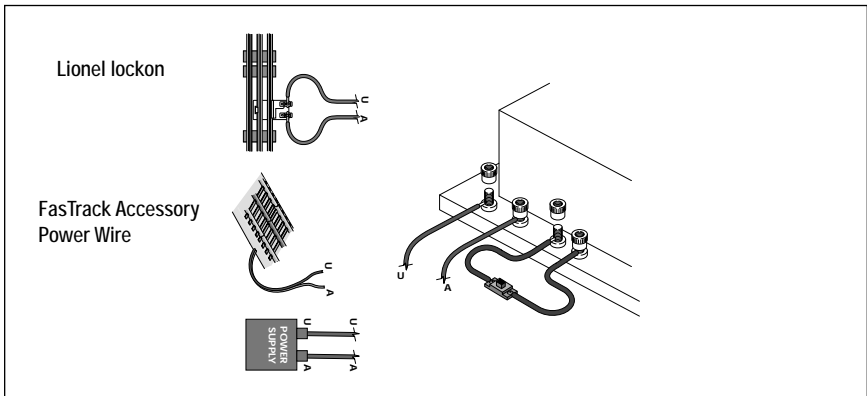

Figure 1. Accessory connections
This accessory operates best at 12-18 volts (AC). You may choose to supply power with a separate accessory power supply or through the track using a Lionel Lockon (available separately, 6-62900) or a FasTrack Accessory Power Wire (available separately, 6-12053). Refer to Figure 1. To make the proper connections, the ends of the wires must be stripped back 1/8" to 1/4".